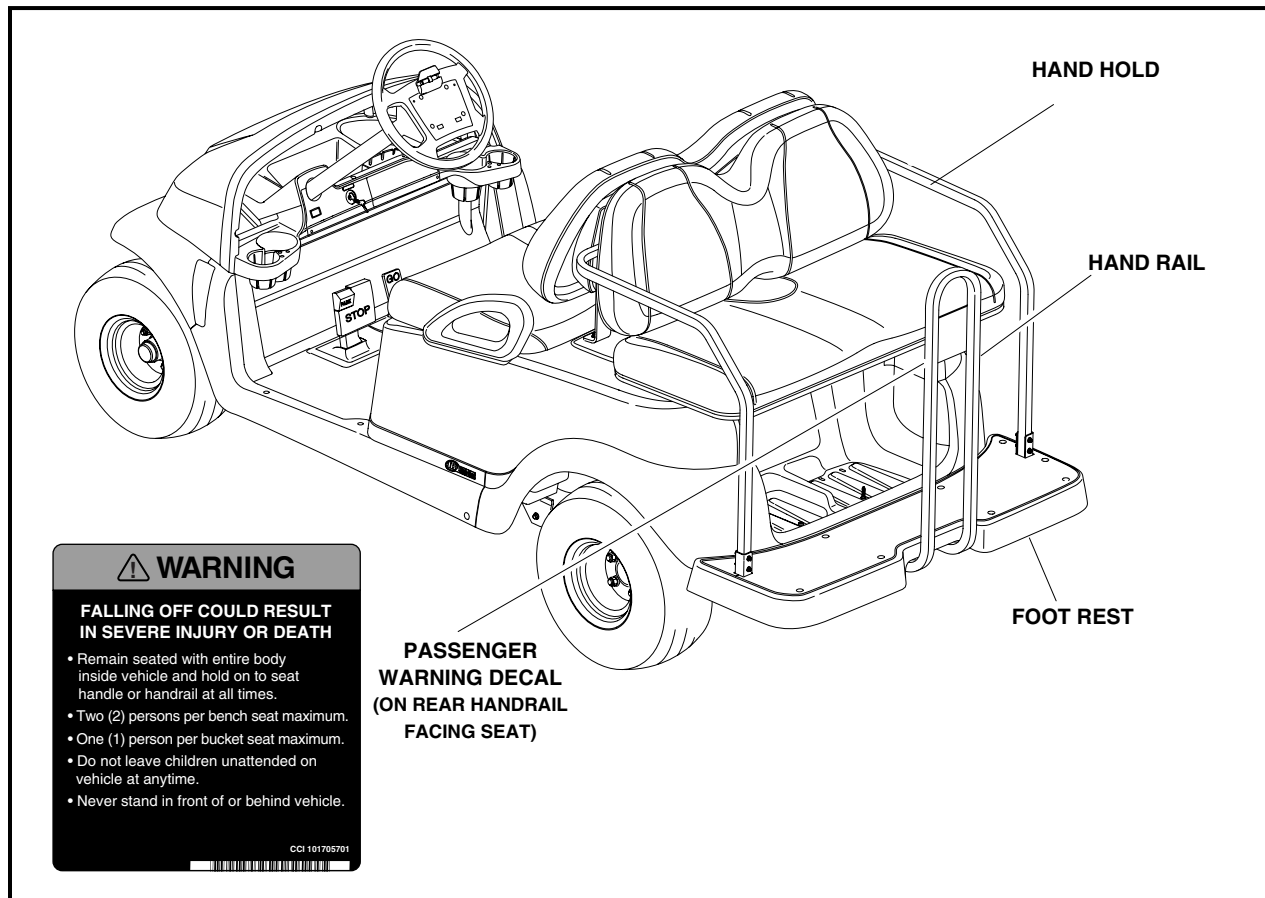

Figure 33 Precedent Villager 4
- **Passengers should hold on to hand holds or hand rails at all times (Figure 33, Page 48). Driver should keep both hands on the steering wheel while vehicle is moving.**